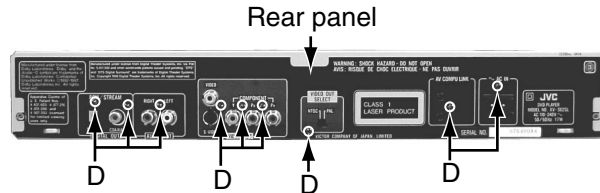

Fig.5
■ **Removing the rear panel (see Fig.5)**